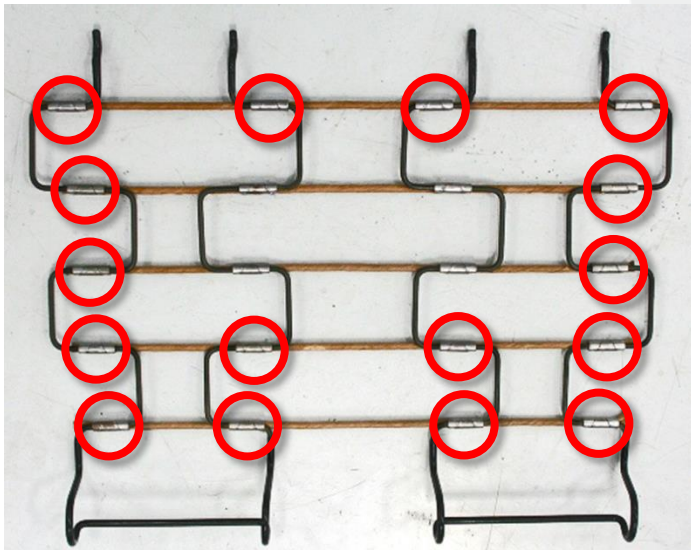

Figure 2
- Using an appropriate tool, remove the 16 metal crimps (Figures 2 and 3). Discard the 16 crimps and the 3 loose cross wires.
⚠ CAUTION: Do not remove the 4 crimps that are not circled in Figure 2; this section supports the seat sensor.